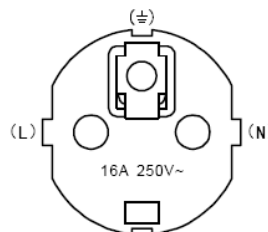

Figure 8: Socket connection illustration.
- Open the socket and connect the heat pump power wires to the terminals. Make sure electrical connections observe that illustrated in the following figure, Figure 8. Terminal names: